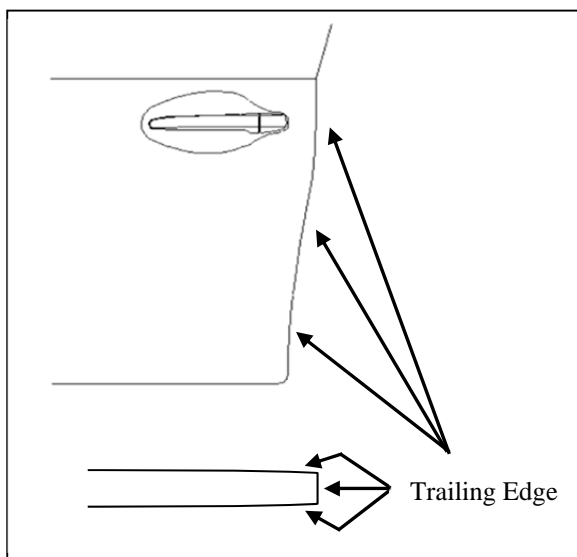

Fig. 2-1
- (1) Fully open the front driver door.
- (2) Using 2 (two) lint free cloths:
- a. Spray three to four pumps of Simple Green (or VDC approved cleaner) onto a lint free towel and pinch the wet towel between your thumb and forefinger while running along the length of the door edge to clean the inside and outside of the trailing edge of door. Make several passes to ensure the wax and oil has been removed (Fig. 2-1).